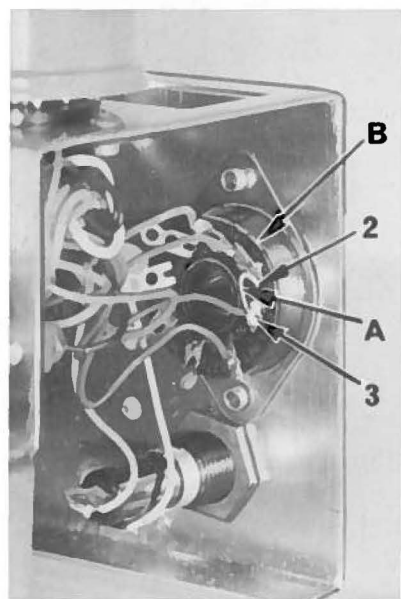

Fig. 36
When installing inching switch, (Amco No. M6665) be sure to remove jumper wire (A, Fig. 36) located between pin #2 and pin #3 on socket (B) before connecting the inching switch plug or it will not function properly.
Should the inching switch be removed at a later date, the jumper wire (A, Fig. 36) must be replaced or the needle positioning unit will not position up.